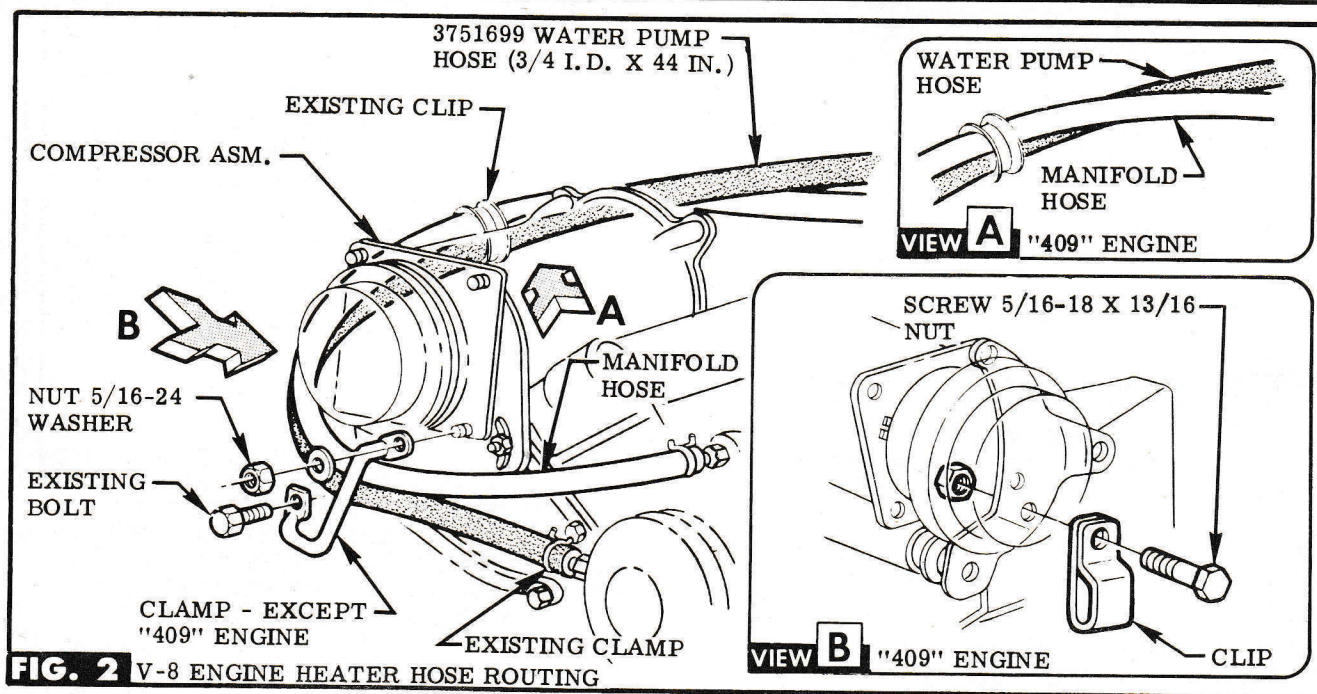

FIG. 2 V-8 ENGINE HEATER HOSE ROUTING
STEP 3 REMOVE & DISCARD EXISTING 3/4 INCH DIA. HOSE TO WATER PUMP, BUT RETAIN CLAMPS. PROCURE HOSE FROM DEALERS STOCK. SEE FIG. 2.
BOLT, PROVIDED L. WASHER & NUT. SEE FIG. 2.
STEP 6 INSTALL PROCURED HOSE ROUTING THRU EXISTING CLIP ON FENDER SKIRT & CLIP ON COMPRESSOR. ATTACH WITH RETAINED CLAMPS. SEE FIG. 2 & VIEWS A & B.
STEP 7 REROUTE EXISTING MANIFOLD HOSE THRU CLIP ON COMPRESSOR. SEE FIG. 2 & VIEW B.